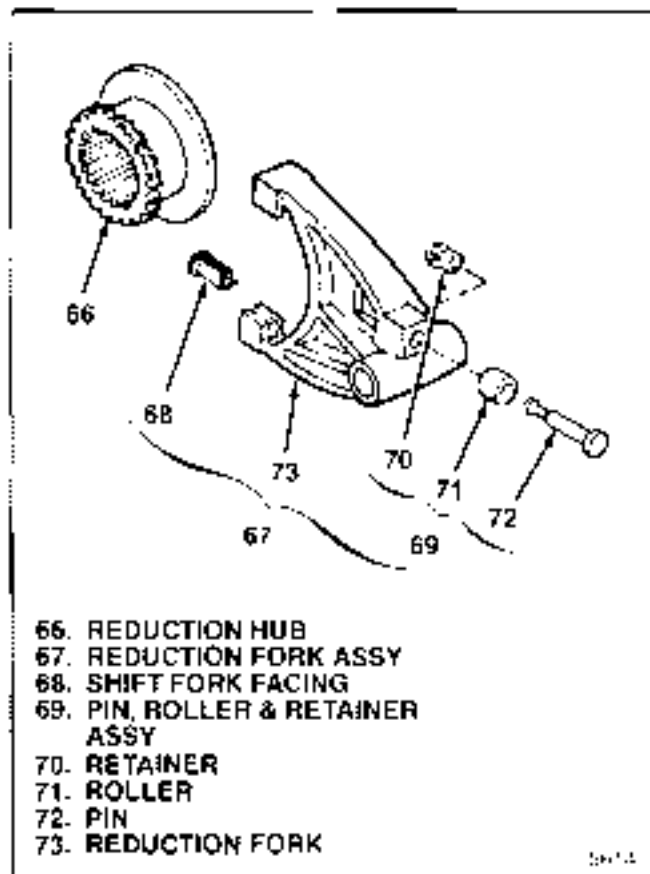
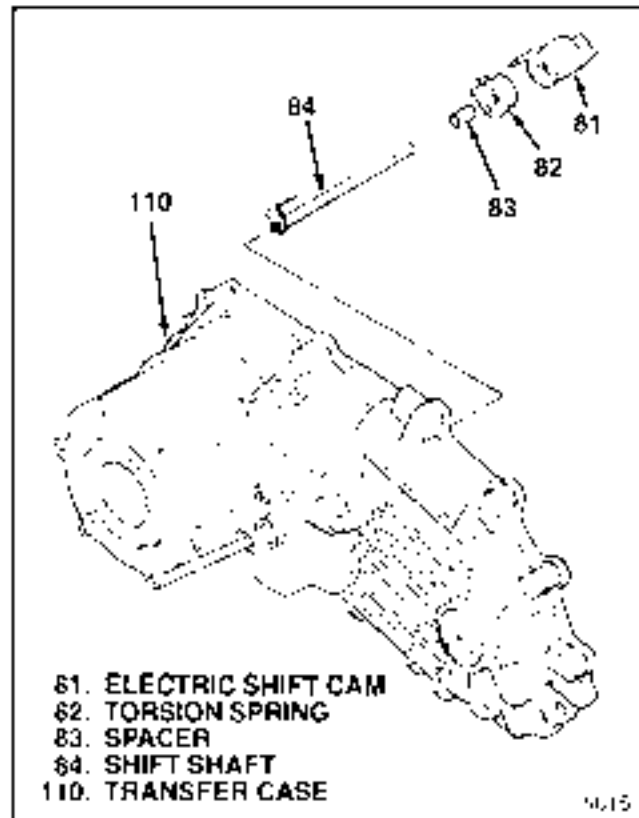

Figure 3-11. Reduction Shift Parts
Figure 3-12. Electric Shift Cam Parts
**3-14. REMOVAL OF REDUCTION SHIFT PARTS.** From remaining transfer case assembly (66 through 119), remove the following (see figure 3-11):
- a. Remove reduction hub (66) and reduction shift fork assembly (67) from transfer case.
- b. Remove two fittings (68) from shift fork assembly (67).
- c. Remove pin, roller and retainer assembly (69) from reduction fork (73), only if damaged. To remove, cut off lip of plastic retainer (70) that projects through fork (73). Remove and discard roller (71) and pin (72) as well as retainer.
**3-15. REMOVAL OF SHIFT CAM PARTS (ELECTRIC SHIFT TRANSFER CASE ONLY).** On electric shift units, remove the following (see figure 3-12):
- b. Slide electric shift cam (81) off shift shaft (84).
- c. Clamp retainer end of shift shaft (84) in soft-jawed vise. Keeping fingers away from spring ends, pry torsion spring (82) out of engagement with shaft drive tang using a screwdriver. Remove torsion spring and spacer (83) from shift shaft.